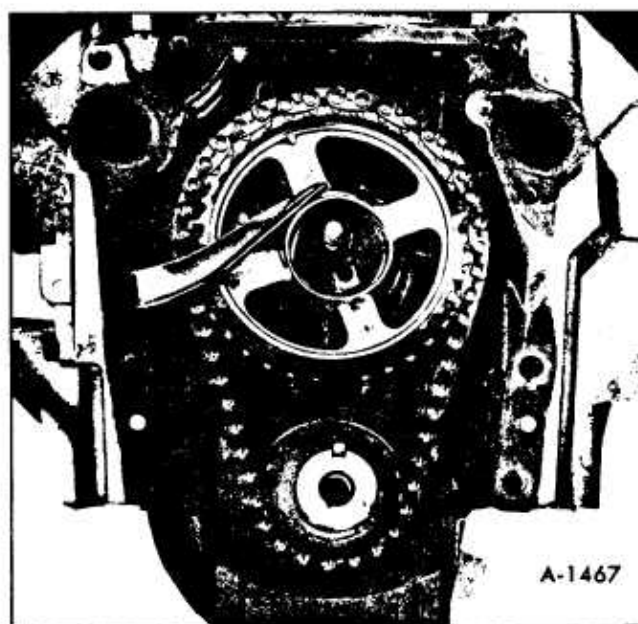

Figure 55—Fuel Pump Eccentric
2. Install fuel pump eccentric with flat side rearward. See Figure 55. Torque bolt to 65 ft. lbs.